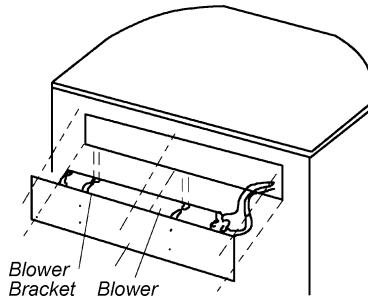

Figure 15-Attaching brackets to blower and mounting blower
5. Attach the two brackets to blower housing using four white screws provided in blower kit (2 for each bracket) (see Figure 15). Tighten screws securely. Place blower assembly temporarily on top panel.
15. Using the screws removed previously, mount blower assembly to stove by reattaching the Knock-out center panel to rear panel (see Figure 15). Tighten screws securely.